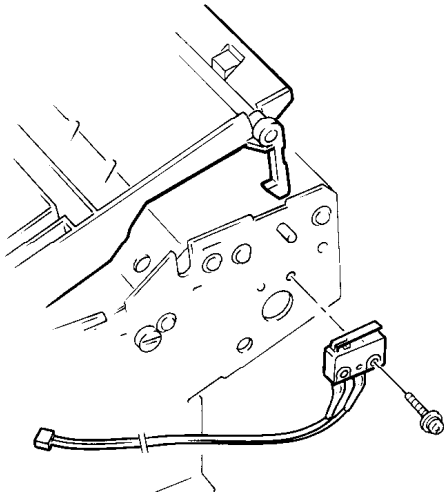

Figure 1. Scanner interlock
4. Remove the screw retaining the interlock to the chassis (figure 1).
5. Remove the scanner interlock (figure 1).